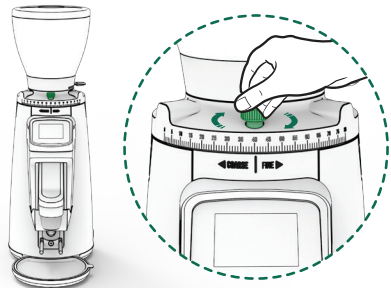

Fig. 8
Once you reach the desired grinding point (16), you can fix the grinding regulation using the regulation break (7) (Fig. 8).